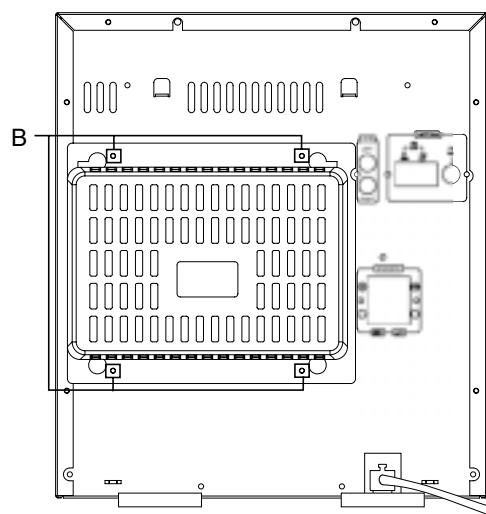

Fig.3
■ Replacing the heat sink cover (See Fig.3)